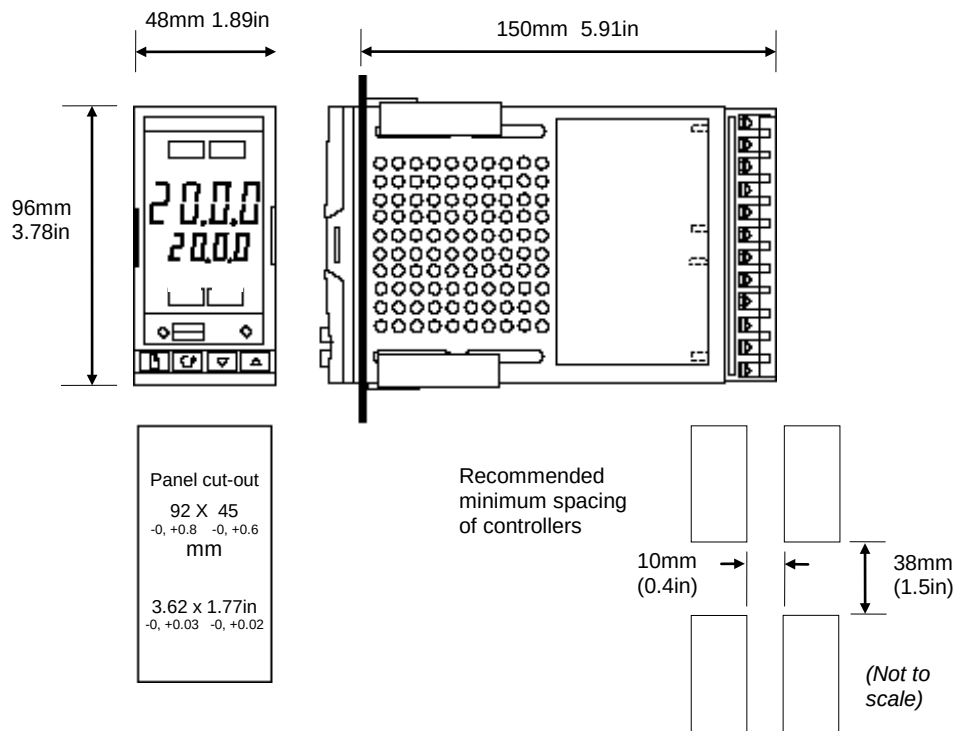
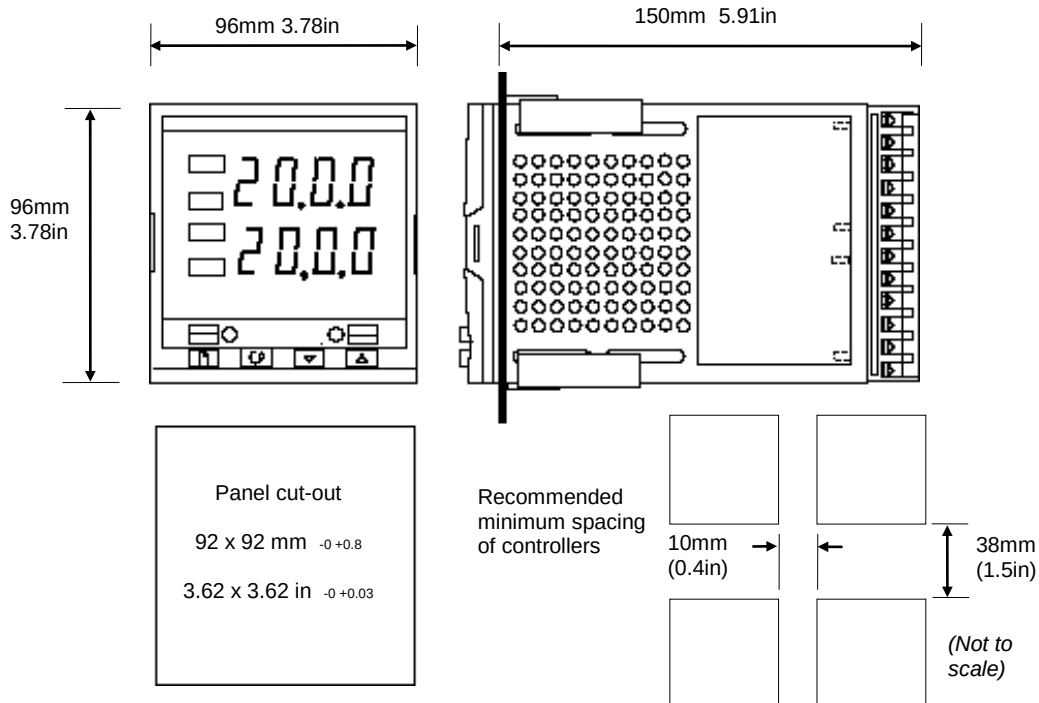

Figure 3: Outline dimensions of model 2408 controller
Figure 4: Outline dimensions of model 2404 controller
1. Cut the panel to the relevant hole size shown in Figure 3 and Figure 4